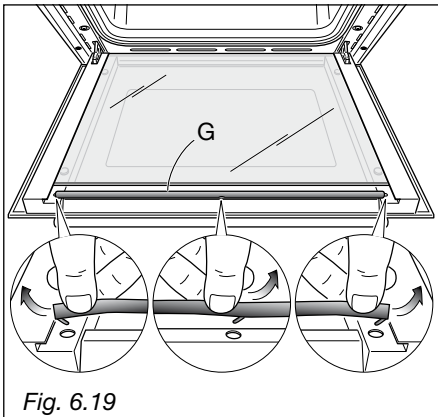

Fig. 6.19
- Remove the seal **G** by unhooking the no. 3 (three) fixing hooks (fig. 6.19).